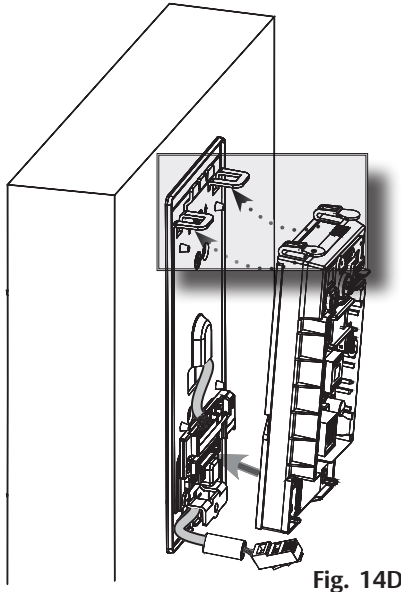
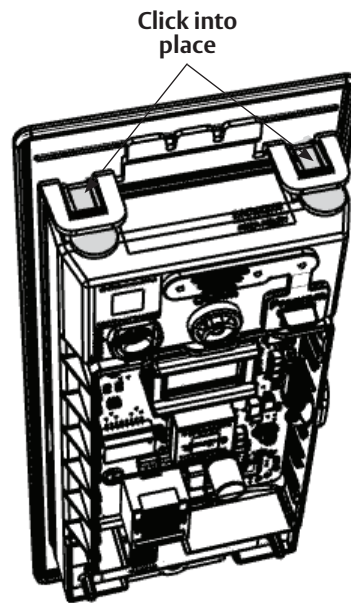

Fig. 14D
Fig. 14E
1. Insert bottom tab of controller (ensure a clear path) into slot on mounting plate (Fig. 14D, E).
2. Ensure proper alignment of board-to-board connectors (Fig. 14E) while pivoting controller toward door until two tabs on top click securely into place on mounting plate (Fig. 14D).